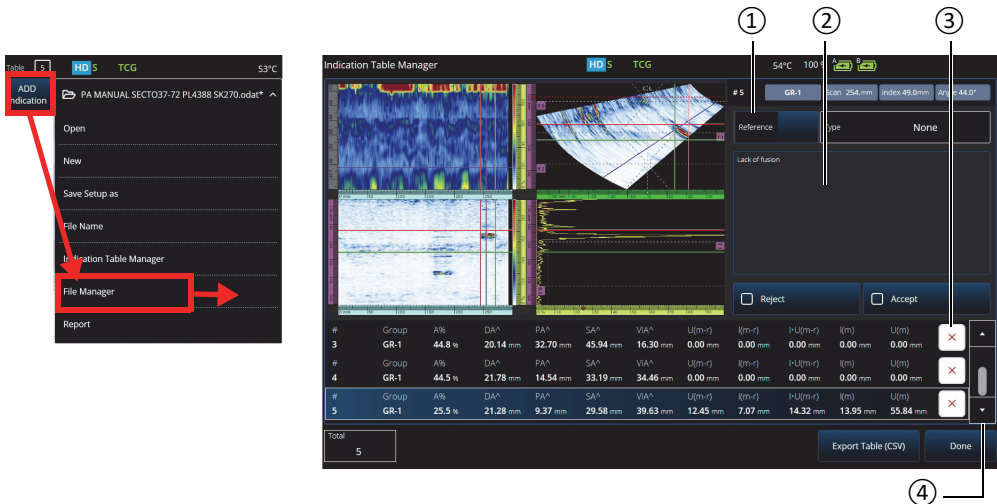

Figure 5-2 Indication Table Manager window
- Add an indication to the table by setting your layout and cursors on an indication (in Analysis mode) and then tapping **Add Indication** (see Figure 5-2 on page 189 on the left). Repeat for every indication you want to add.
- Tap **File > Indication Table Manager** to access the indication table (see Figure 5-2 on page 189 on the left and Table 85 on page 190).